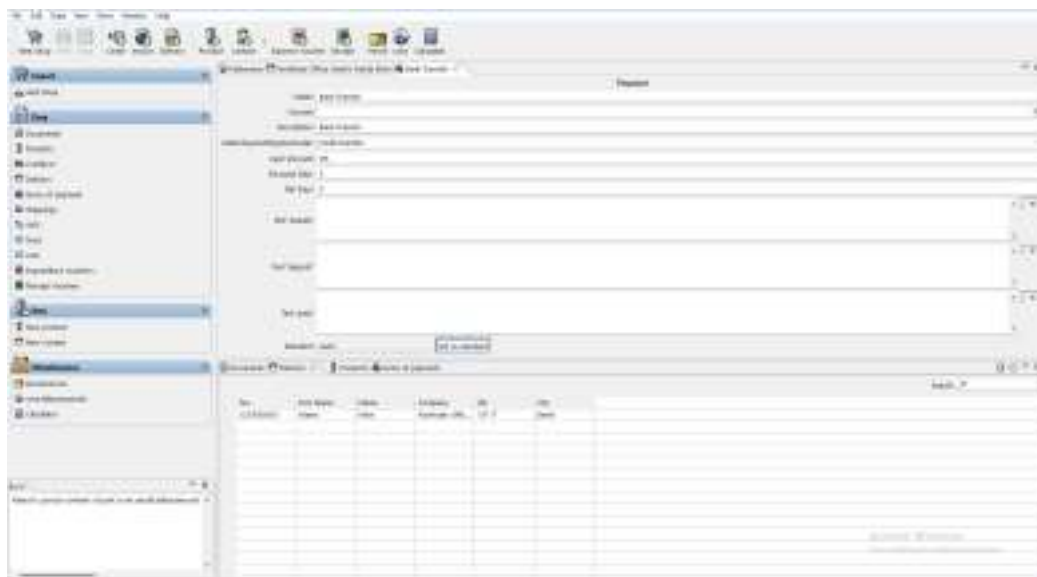

Figure 4. Conditional Bank Transfer setup using the Credit transfer payment code.
2.10.6. Click the toolbar **Save** control once, return to the open **Debtor** editor, and select the new **Payment Method**. See Figure 4.